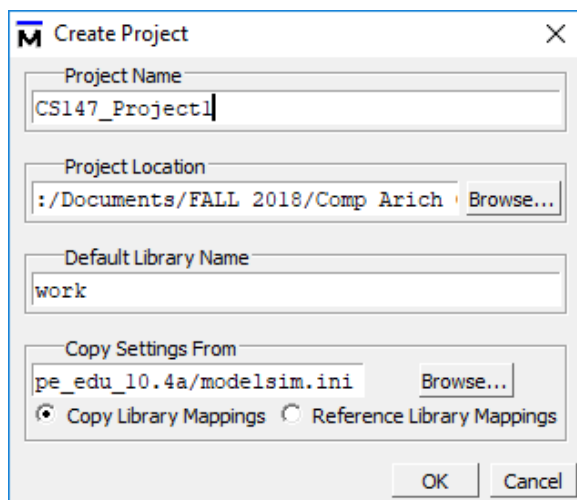

Figure 2.2 Create Project
- “Create Project” window will show up after click “Project” in figure 2.2.
- Give a project name such as “CS147_Project1” in figure 2.2 and push the OK button.